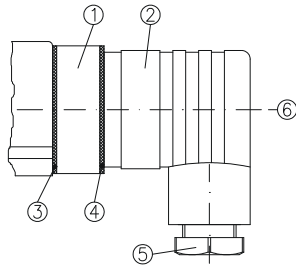

Fig. 7
- ✚ Loosen the central screw ⑥ M3x35 and disconnect the cable socket ② from the connector ① (⇒ Fig. 7). Pull the central screw ⑥ out of the cable socket ②.